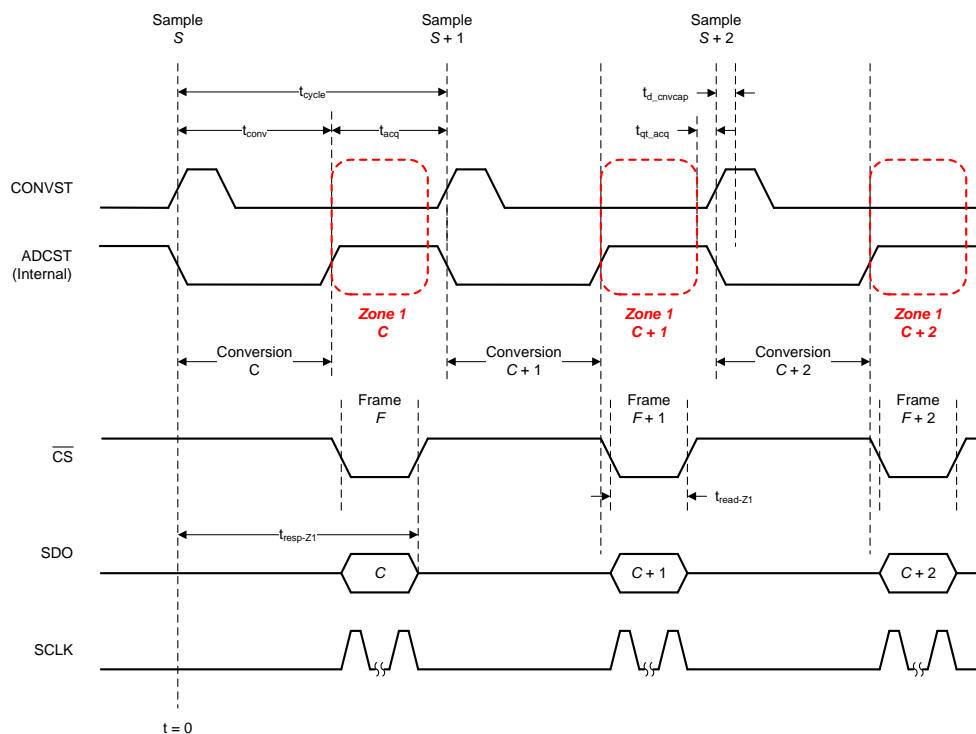
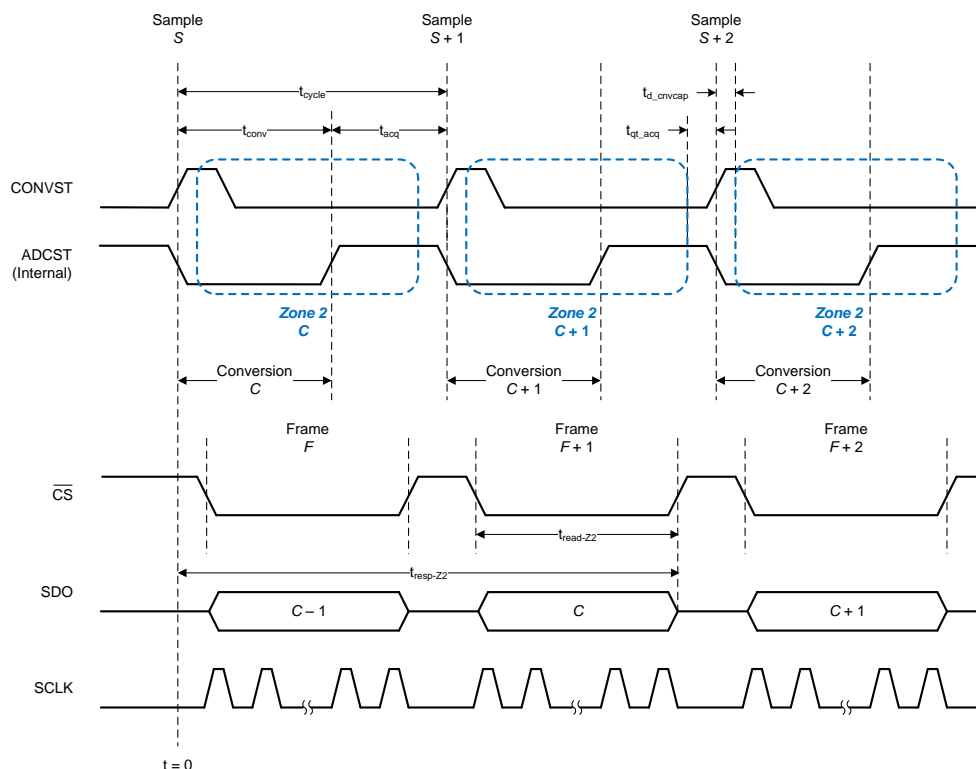

Figure 45. Zone 1 Data Transfer
Figure 46. Zone 2 Data Transfer
Figure 45 and Figure 46 illustrate interleaving of three conversion cycles ( $C$ ,  $C + 1$ , and  $C + 2$ ) with three data transfer frames ( $F$ ,  $F + 1$ , and  $F + 2$ ) in zone 1 and in zone 2, respectively.
- Extended data transfer window, as shown in Figure 46.